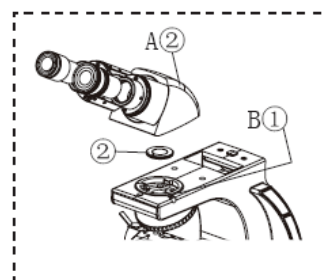

Fig. 19
4.2 Simplified Polarized Light Observation(Fig.19,20&24)
a) Using the Allen screwdriver, loosen the observation tube clamping screws(B① in Fig.19) on the observation
tube mount and remove the observation tube(A② in Fig.19).
b) Hold the polarizer(② in Fig.19), insert the polarizer positioning pin fully into the pin section of the observation tube mount. Be sure the polarizer is tightly and evenly placed in the observation tube mount.